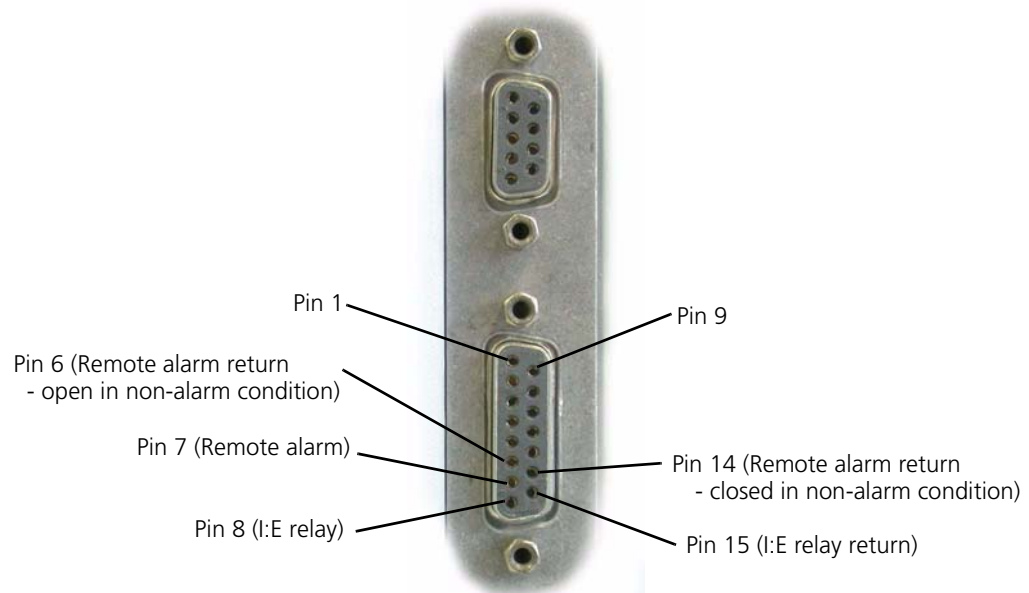

Figure 7-10. Special connector pin locations
- a. Connect the multimeter between pin 7 and pin 14 of the Special interface as shown in Figure 7-10.
- b. Connect the multimeter between pin 7 and pin 6 of the Special interface as shown in Figure 7-10.